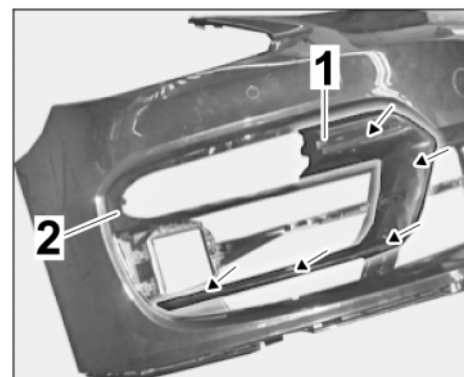

Figure 20
3.3.2 Install vane (C blade – painted or carbon-fiber) into the grille (⇒ *Figure 20 -Arrows-*).